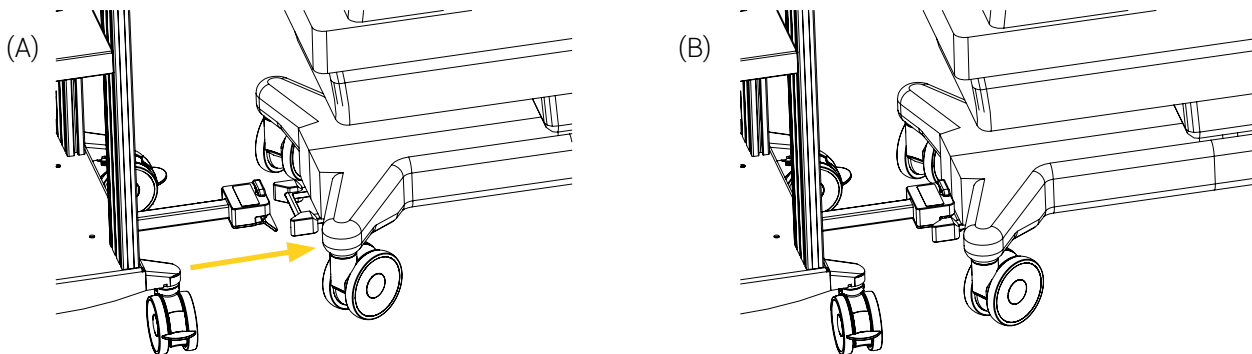

Figure 7 : Installation of the transport cart on the Babyleo TN500 incubator
- Move to the side of the transport cart, then align the fold-up hitch with the THS coupling device located under the incubator (Figure 7 A).
- Pull the transport cart towards the incubator until the THS coupling device is inserted and fully secured in the fold-up hitch locking mechanism (Figure 7 B).